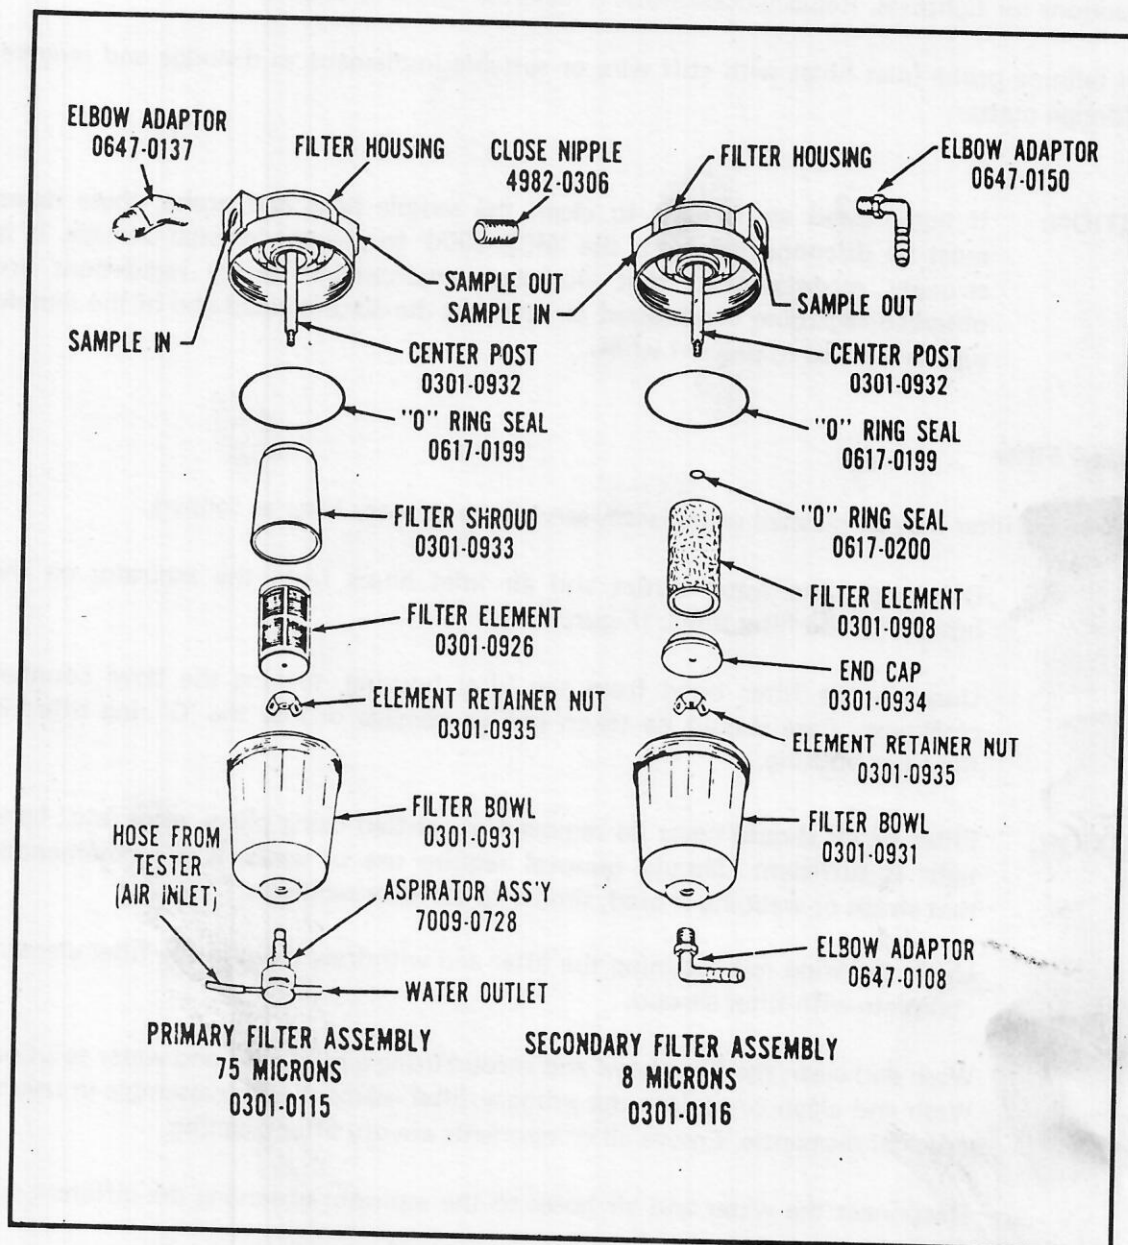

FIGURE 9:1
1. Disconnect the water outlet and air inlet hoses from the aspirator on the bottom of the filter bowl. (Figure 9:1).
1. Disconnect the hose from the elbow adaptor on the bottom of the filter bowl. (Figure 9:1).